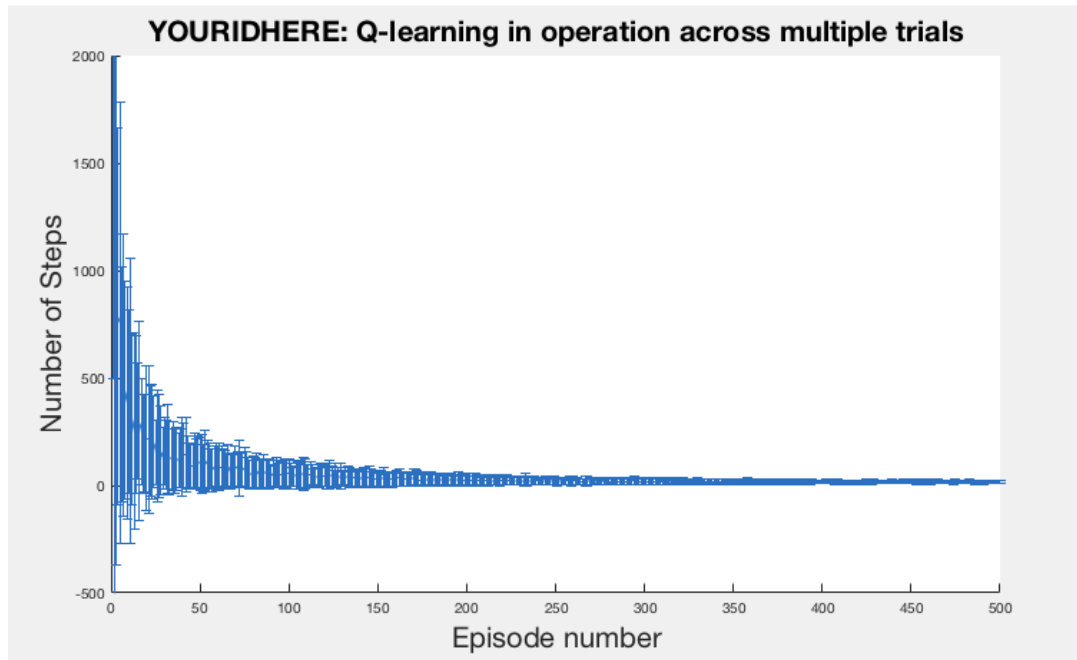

Figure 8. Mean and SD of steps plotted against episode.
- Plot the mean and standard deviation across trials of the steps taken against episodes. Describe what you find. You should end up with a plot like the one shown in **Fig.8.** (overleaf)